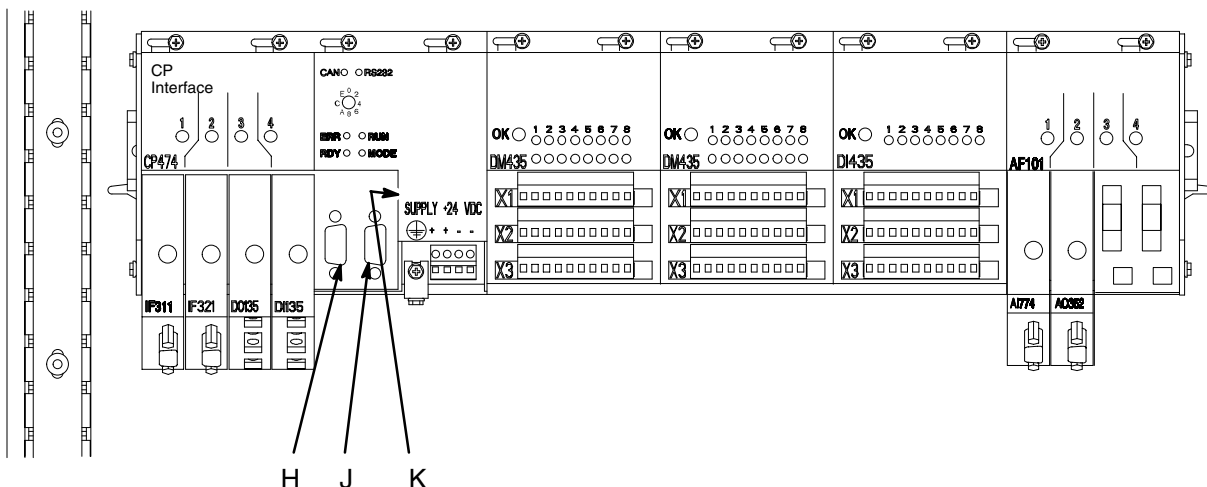

Fig. 11.2
3. To have access to the battery door, disconnect the cables from the Controller communications ports, CAN (H) and RS232 (J). See Fig. 11.2.